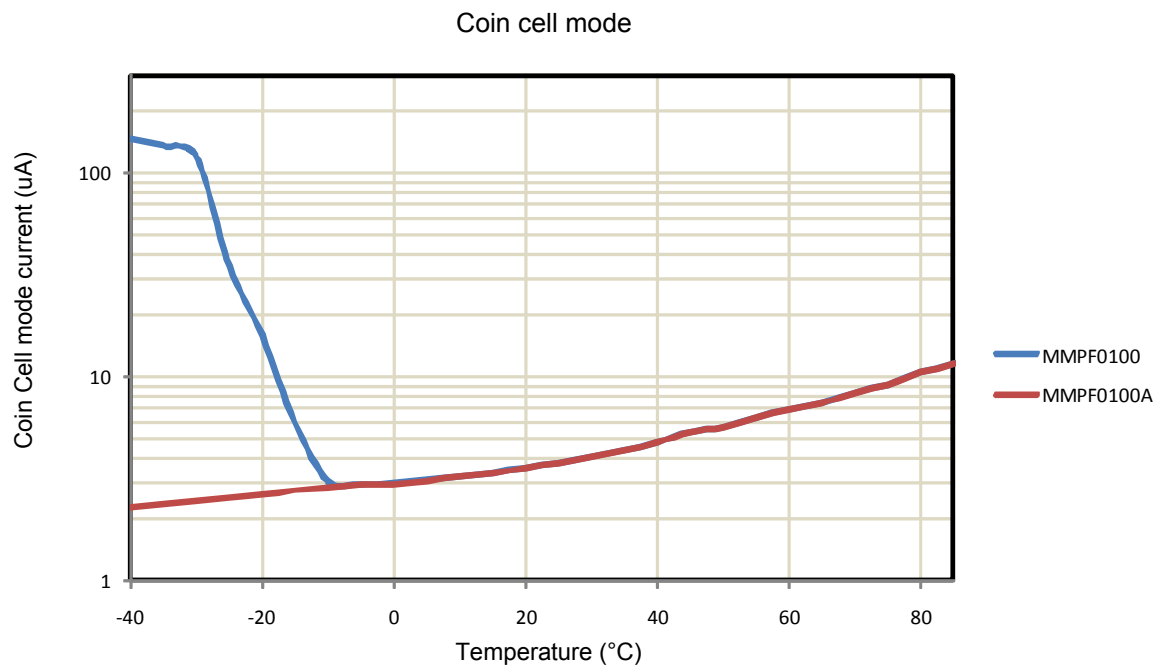

Figure 4. Coin cell mode current vs temperature
17. Refer to Figure 4 for coin cell mode characteristics over temperature.